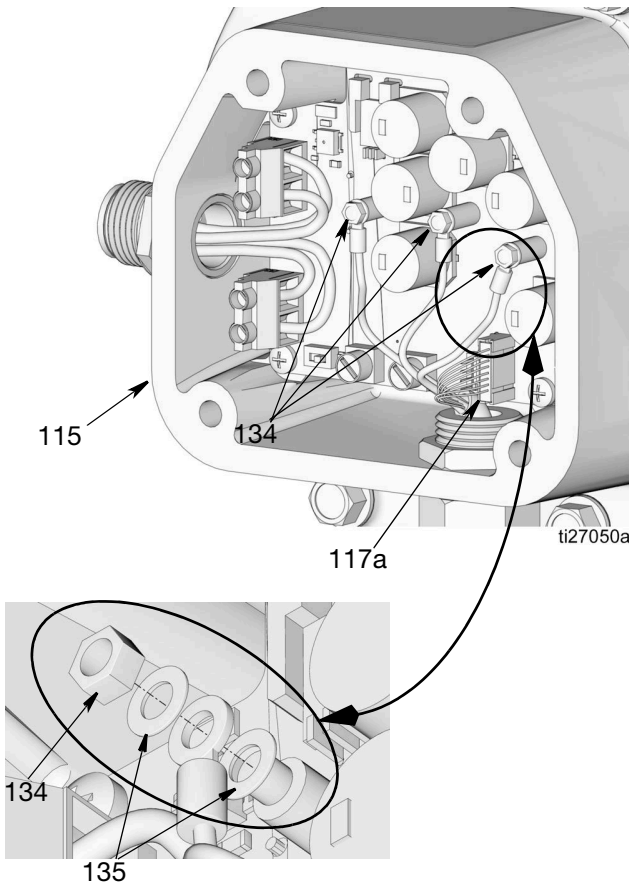

FIG. 66
6. Remove the nuts (134), as shown in FIG. 66. Remove the washers (135) and the motor wires from the terminals.